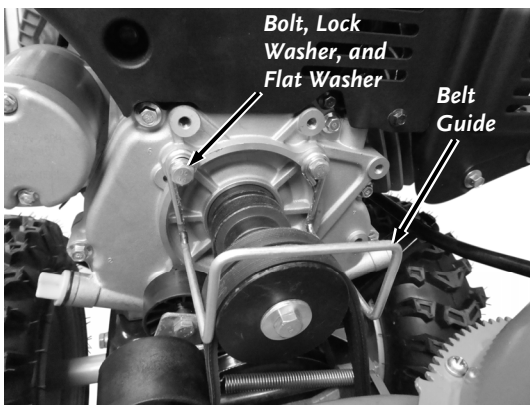

Figure 60
2. Remove the two Bolts, Lock Washers and Flat Washers that secure the Belt Guide to the Engine and remove the Belt Guide (**Figure 60**).
15. Install the Belt Guide (**Figure 60**).